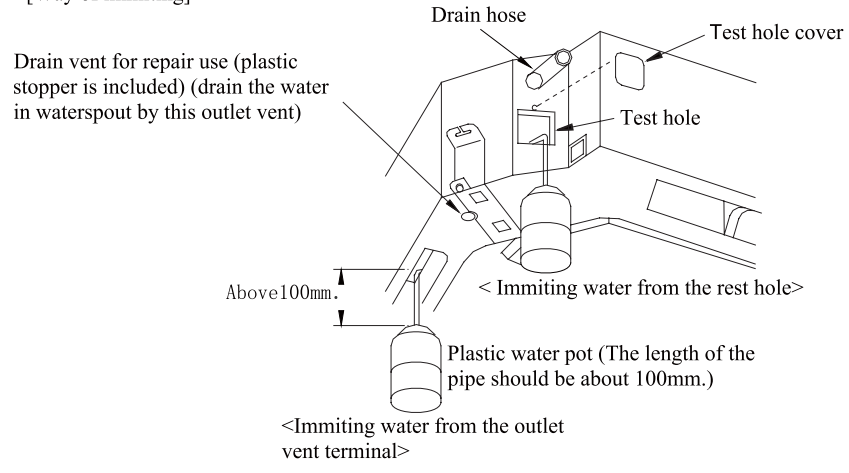

Figure 1-3-12
- Check the drain state by immiting 600cc water slowly from the outlet vent or test hole. (As shown in Figure 1-3-12)